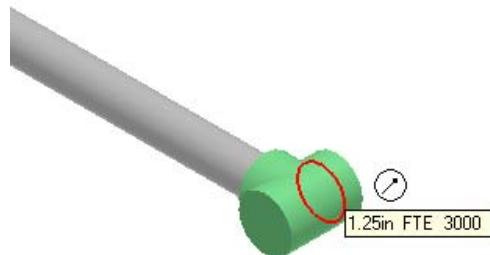

Figure 23: Placed Tee
66. Select the Tee Port to start routing the conduit, as shown in the Figure 23.